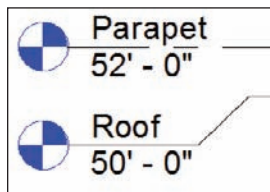

FIGURE 3.18 Controlling the visibility of the levels at the other end
3. Turn the Roof level on as well. Use the blue adjustment icons (elbow icons) to move it out of the way (see Figure 3.18).